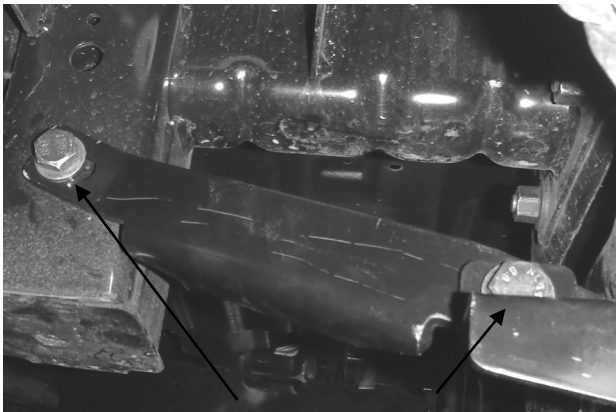

Fig 7
6. Use (1) M12x140 Hex Bolt, (1) M12 Large Flat Washer, (1) M12 Lock Washer, and (1) M12 Hex Nut to loosely attach the Support Strap to the side of the frame tower. The M12 Large Flat Washer should be placed on the side of the tower opposite the support strap (Figures 7 & 8).